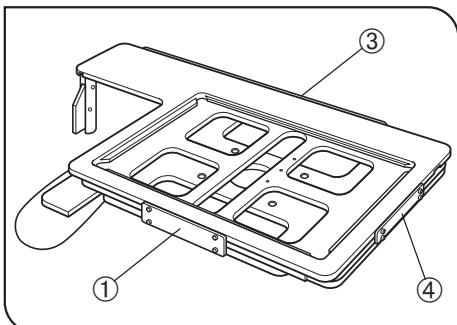

Fig. 4
1. Using the Allen screwdriver (3 mm), remove the transport clamping plate ① from the rear edge of the stage. (Fig. 4) The removed screws should be used to clamp the stage when attaching it.
2. While holding the stage so that the coarse adjustment grip and X-axis/Y-axis knobs are on the right, gently place the stage on the stage holder ②. Using the Allen screwdriver or Allen wrench, tighten the four screws temporarily.
3. Remove the transport clamping plate(s) from the front ③ and side (MX-SIC1412R2 only) ④ of the stage, move it to the rearmost position and, after confirming that the stage and arm do not interfere with each other, tighten the four screws firmly. (Fig. 4)
Caution Before Transporting the Stage (Fig. 4)